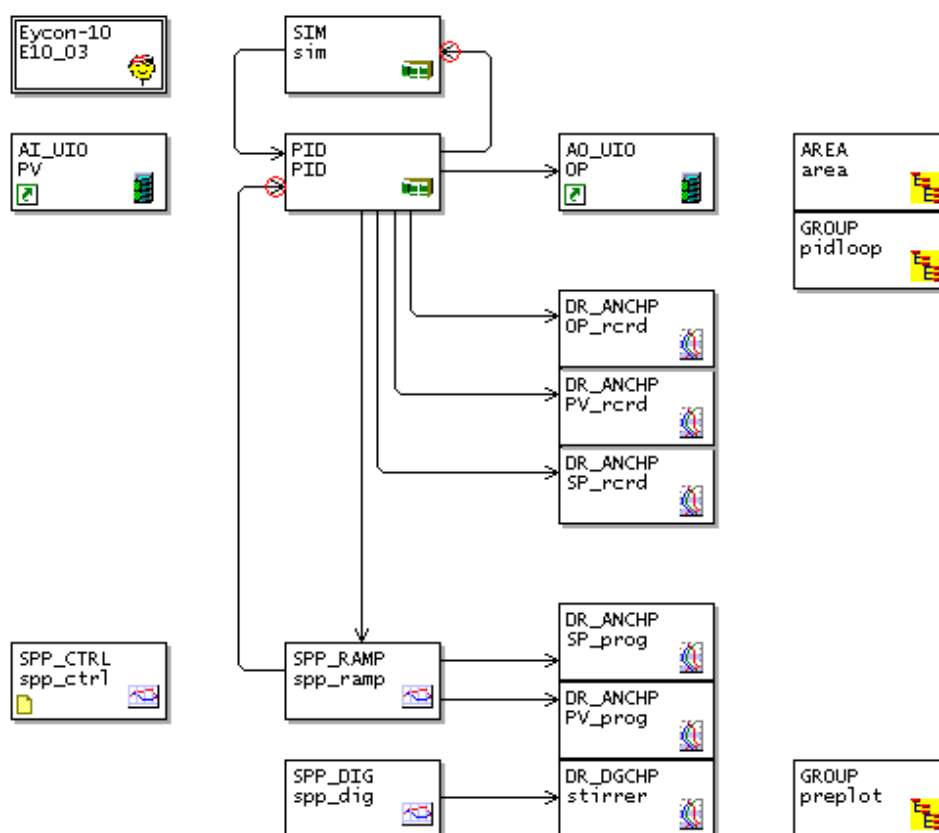

Figure 3-6 Modified programmer strategy for testing
As for the PID loop in Chapter 2, you can quickly test out the programmer strategy using a SIM block to simulate plant behaviour. Figure 3-6 shows the slightly modified strategy.
- 2 Place a SIM simulation block on the worksheet, as shown in Figure 3-6.